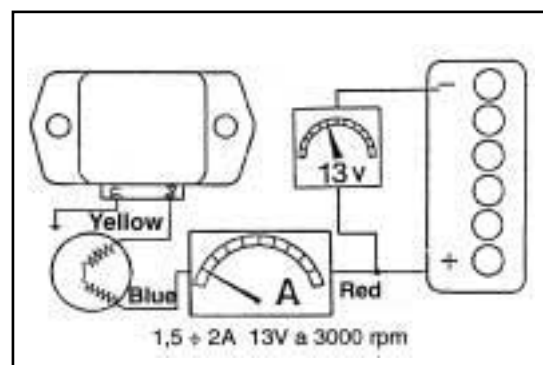

Fig. 3
- a) Connect an ammeter between the stator (blue cable) and the battery and check using tester 020331Y that the current distributed at 3,000 rpm and with the battery at 13 V is approximately $1.5 \div 2$ Amps (Fig. 3).